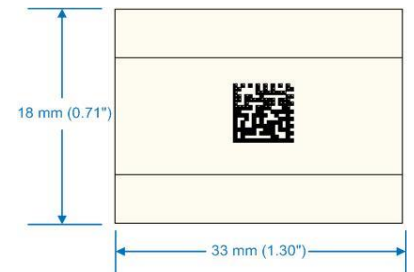

Figure 1: Max FOV for V1 Option
- **Field of View** – Maximum FOV for V1 option is 33mm x 18mm as seen in Figure 1. See Table 1 for details on other vision options.